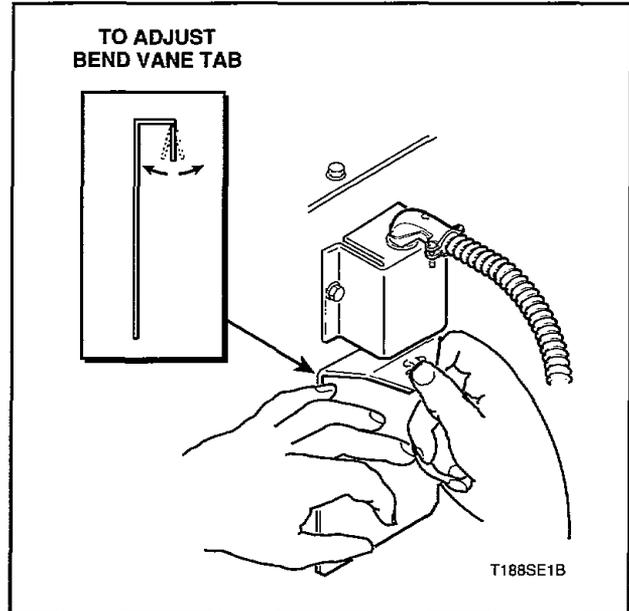

Figure 30
37. AIRFLOW SWITCH (Figure 30)
- c. If switch is not opening as described in step "b", it should be adjusted so it is MORE sensitive. Grasp the vane and spread the vane and switch connection apart, *Figure 30*. Retest by opening loading door and continue spreading the vane until switch operates as described in step "b".